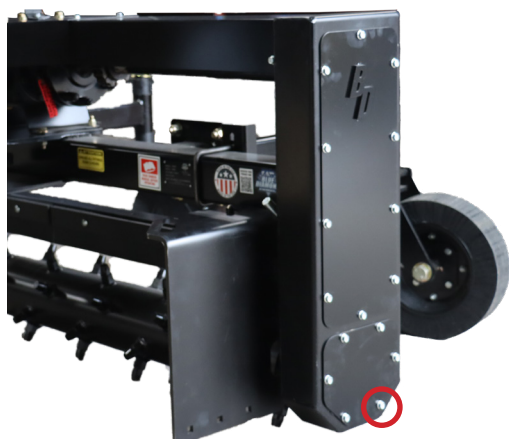

Figure 6
**NOTE:** To check the chain case oil, park the power rake on a smooth level surface. Remove the bolt (Item 1) [Figure 6]. If no oil present, fill the chain case with 80/ 90W oil until oil leaks out the bolt hole. Install bolt.